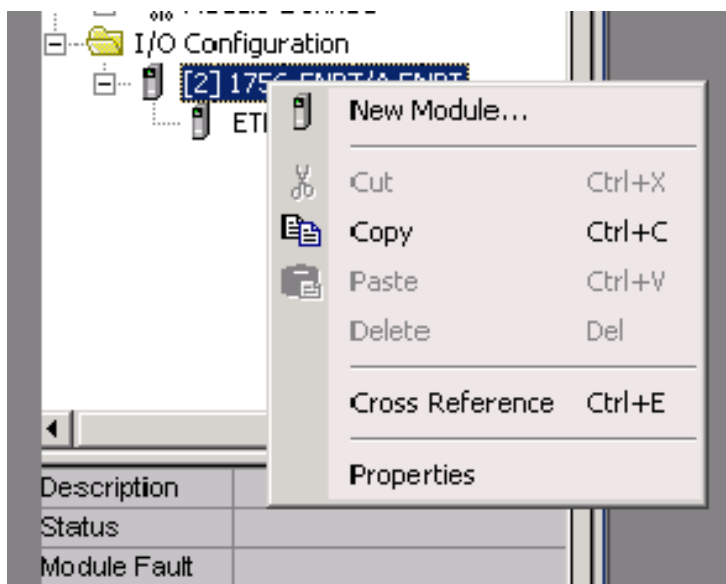

Figure 1 Add new “Generic Ethernet Module” to device configuration.
- Add RETA-01 adapter to device configuration (Figure 1)